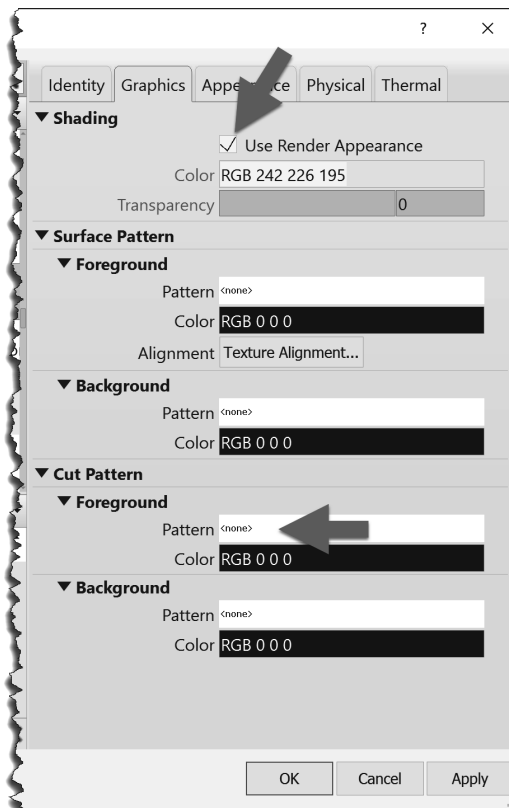

FIGURE 4-3.18
53. Make sure the **Use Render Appearance** under *Shading* is checked (Figure 4-3.18).
54. Set the *Foreground Cut Pattern* to **None** (Figure 4-3.18).